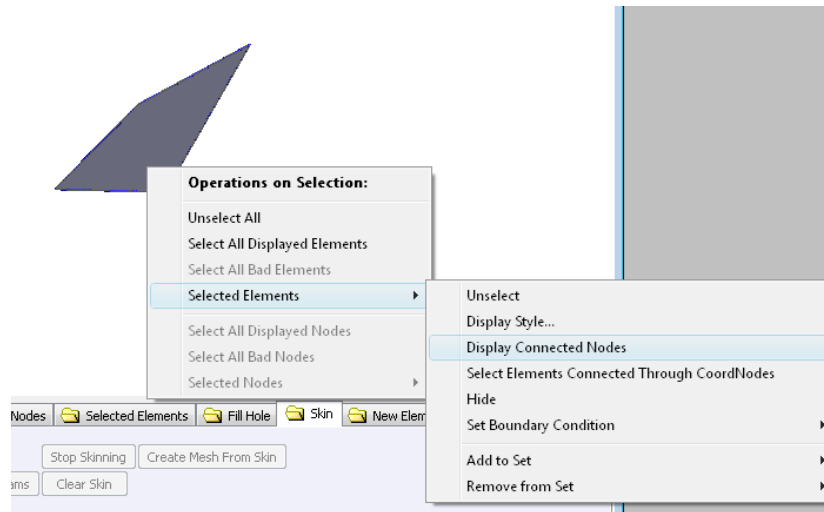

Figure 5.23: Display Connected Nodes of Selected Element.
- Select a Bad Element by left-clicking on it while holding down the *shift-key*. To display coordinate nodes of this element, right-click with *shift-key* held down and select: **Operations on Selection** → **Selected Elements** → **Display Connected Nodes**. (Figure 5.23)